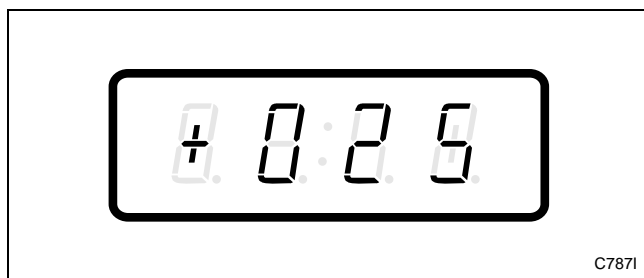

Figure 70
3. Press the DELICATES (+) or the COLD (-) keypad to scroll through the programmable options until “+025” appears in the VFD. Refer to *Figure 70*.